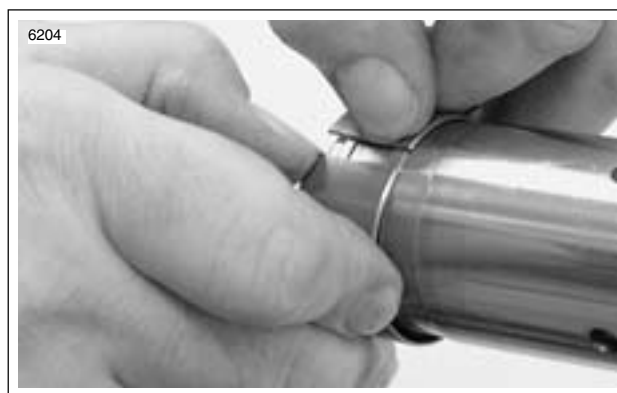

Figure 2-51. Removing Slider Tube Bushing
13. See Figure 2-51. Carefully pry slider tube bushing apart with your fingers. When opened, remove slider tube bushing from slider tube.